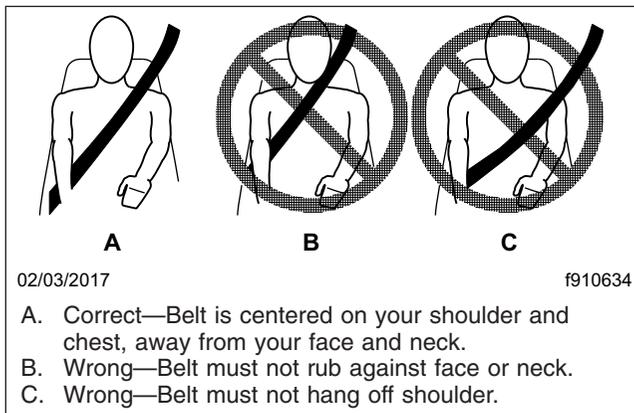

Fig. 9.9, Proper Shoulder Strap Fit
5. Position the shoulder strap diagonally across your chest with the adjustable D-loop bracket (if equipped). The shoulder strap must be centered on your shoulder and chest, away from your face and neck. See Fig. 9.9. If desired, engage the Komfort Latch or Sliding Komfort Latch as follows.